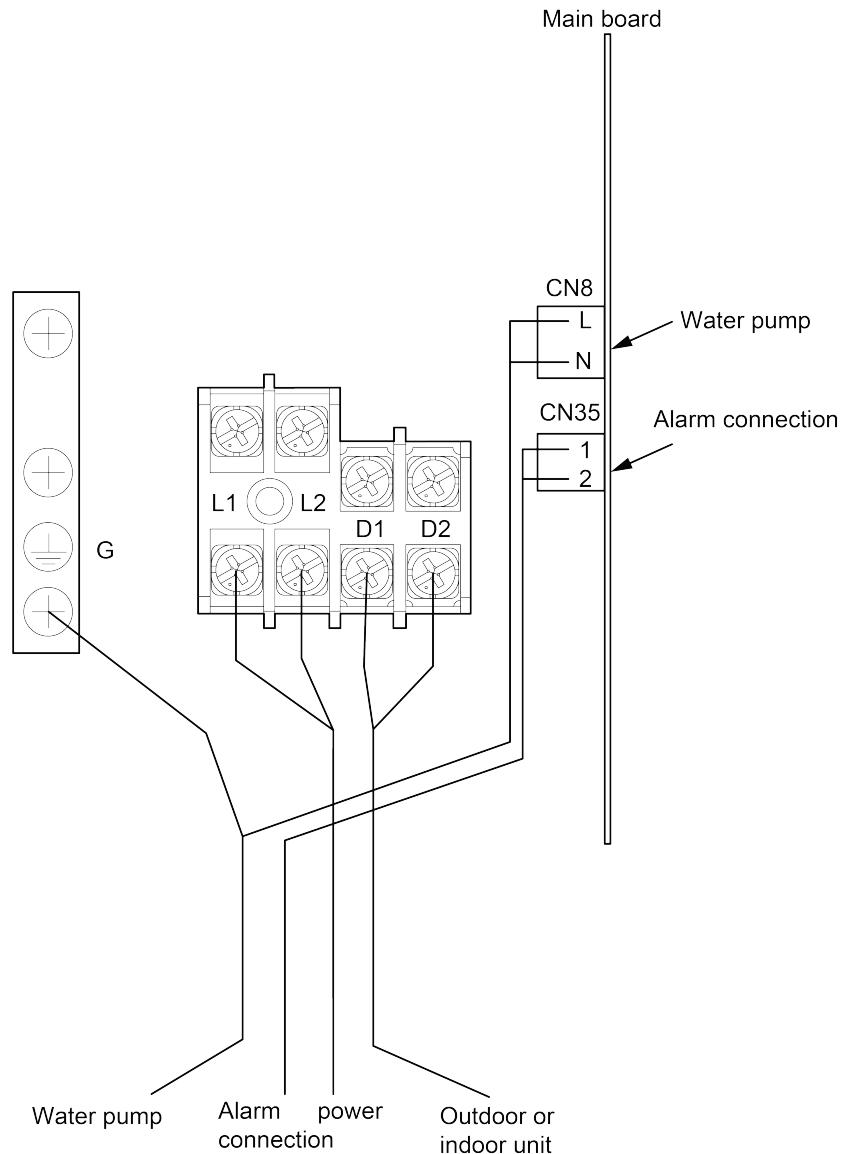

Fig. 5.7
- (1) Remove the panel.
- (2) Remove the electric box cover.
- (3) Connect the power cord of external water pump to the positions L and N of terminal CN8 of the main board; connect the alarm wire to the positions 1 and 2 of terminal CN35 (refer to Fig. 5.7).
- (4) Take out the wiring clip from the package of accessories. Remove the original wiring clip from the electric box and secure the power cord and alerter wire with the new clip.